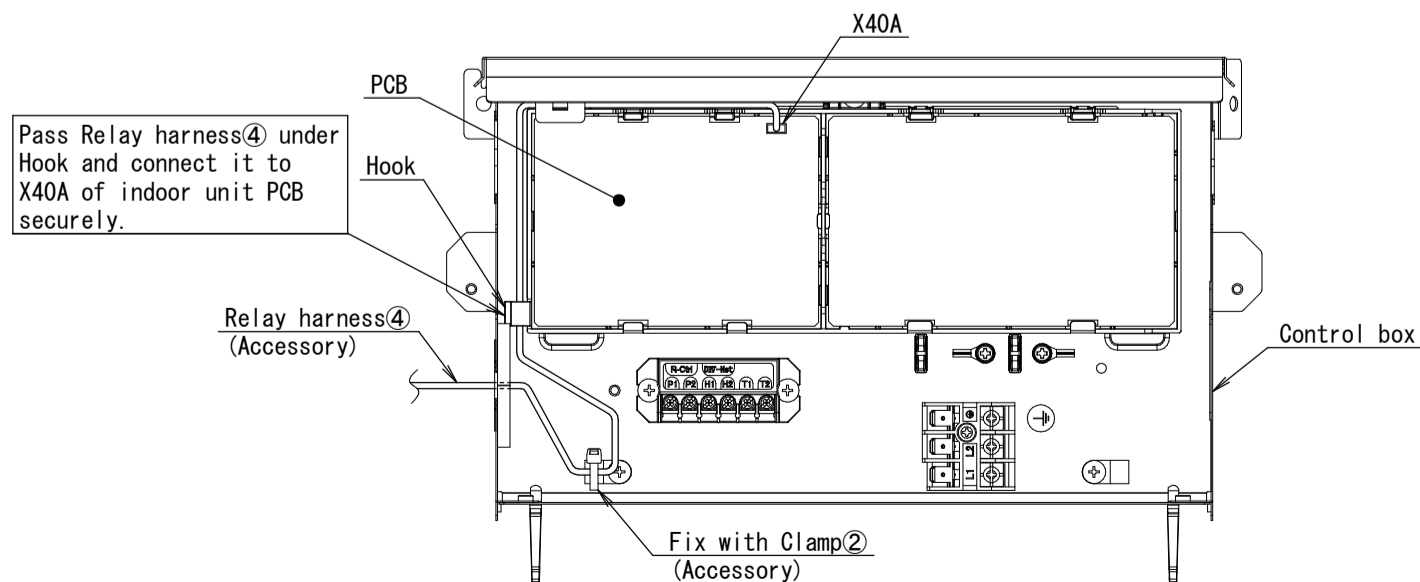

Figure 4
(1) Connect the Relay harness④ to X40A of the indoor unit PCB and fix the connected harness with the Clamp②. (Figure 4)